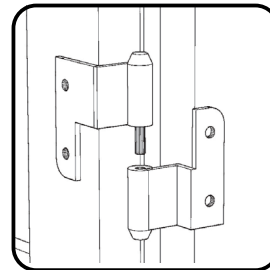

Figure 6
Attach Doors (Q) and (R) to unit by sliding door lift hinges into side panel lift hinges. (See Figure 6)